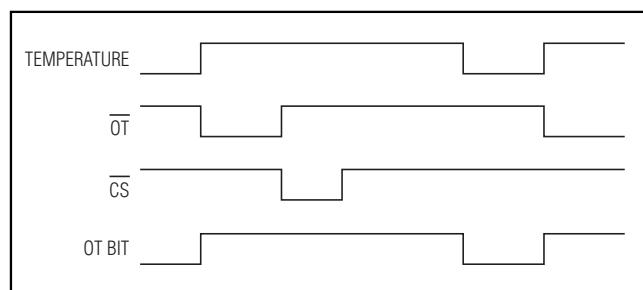

Figure 4. Example Timing Diagram of the Overtemperature Alerts
An open-drain, active-low output (OT) asserts low when the internal temperature of the device rises above the thermal warning threshold. OT is immediately cleared when the CS input is driven low for write/read operations, regardless of whether the temperature is above the threshold or not. The overtemperature status of the MAX13036 can also be monitored by reading the OT bit in the status register. The OT bit is set when the internal temperature rises above the temperature threshold and it is cleared when the temperature falls below the temperature hysteresis level. This allows a microprocessor (μP) to monitor the overtemperature status, even if the OT output has been cleared. See Figure 4 for an example timing diagram of the overtemperature alerts.